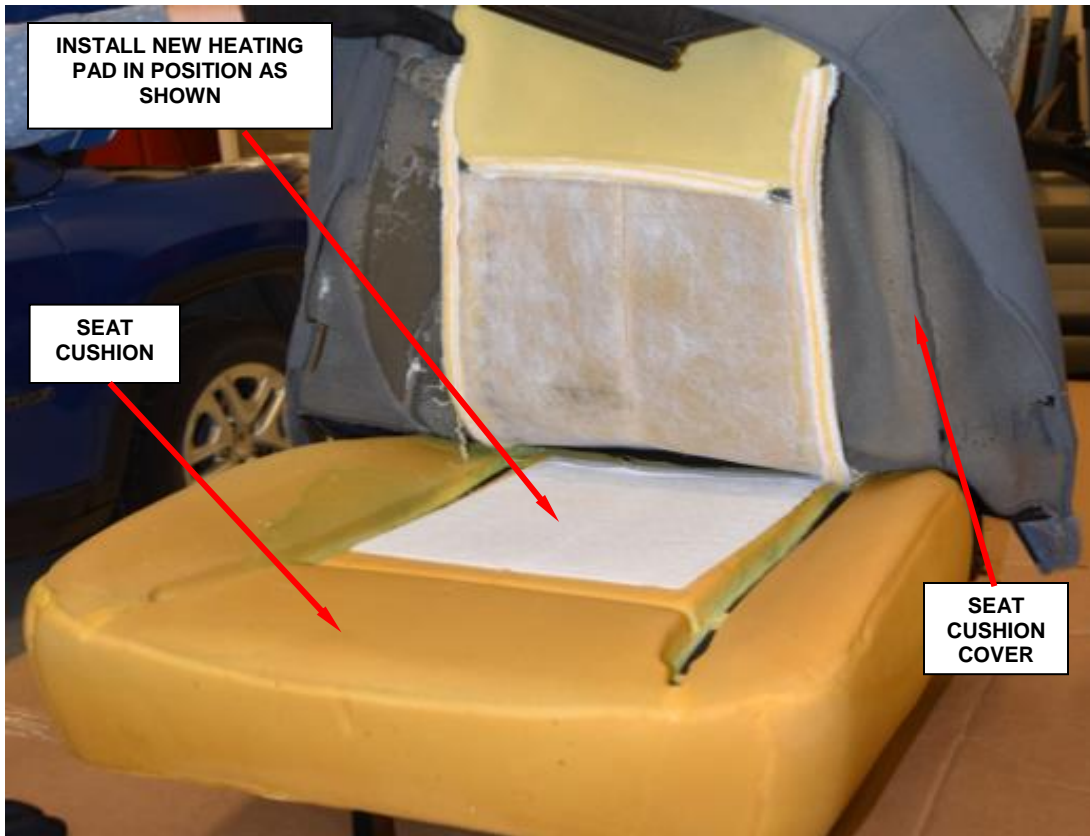

Figure 16 – Seat Cushion Heating Pad Location
15. Peel off the adhesive backing of the replacement heating pads and stick on foam pad directly where the original pad was placed (there will be adhesive marks on the foam outlining the original installed heating element) (Figure 16).